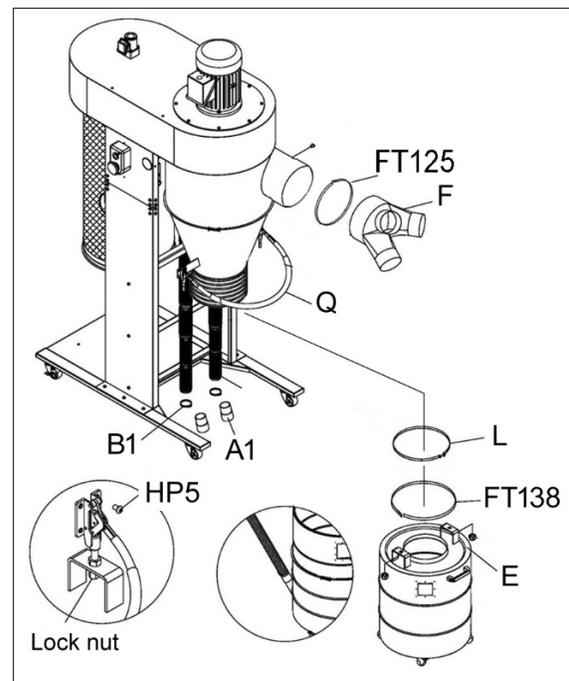

Figure 5-9
19. Paste 1Wx25L inch foam tape (FT125) around the inlet port at its edge. Trim excess. See Figure 5-9.
20. Push inlet adaptor (F) onto housing inlet and tighten with screw.
21. Paste 1Wx38L inch foam tape (FT138) around flange of drum lid (E).
22. Roll drum beneath cone and work hose on to drum lid. Secure with hose clamp (L).
23. Install quick lever (Q) to flanges of cone with button head screws (HP5, see inset). Then connect bottom of handle to drum lid with hex nut on top and lock nut underneath.